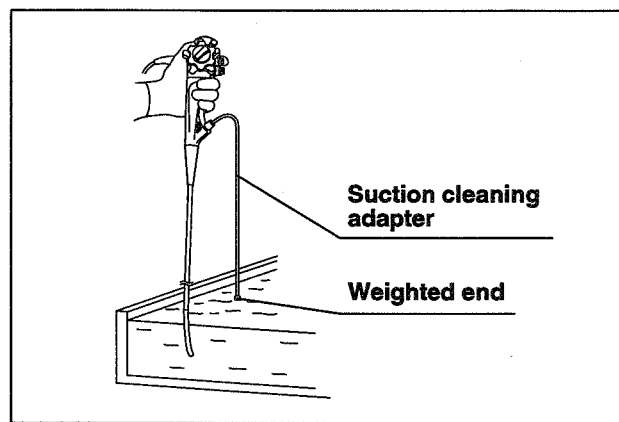

Figure 3.18
1. Attach the suction cleaning adapter to the instrument channel port (see Figures 3.18 and 3.19).